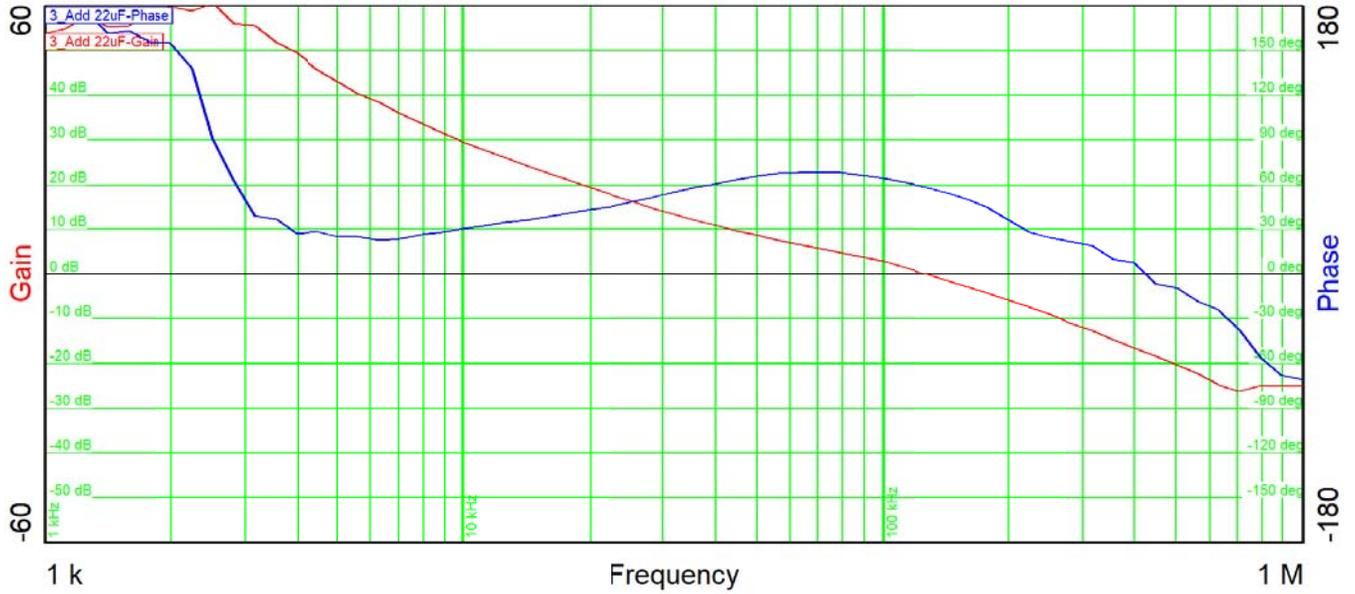

Figure 14: Bode Plot Measurement of 1V8_BUCK at 500 mA
- Figure 14: Bode Plot Measurement of 1V8_BUCK at 500 mA